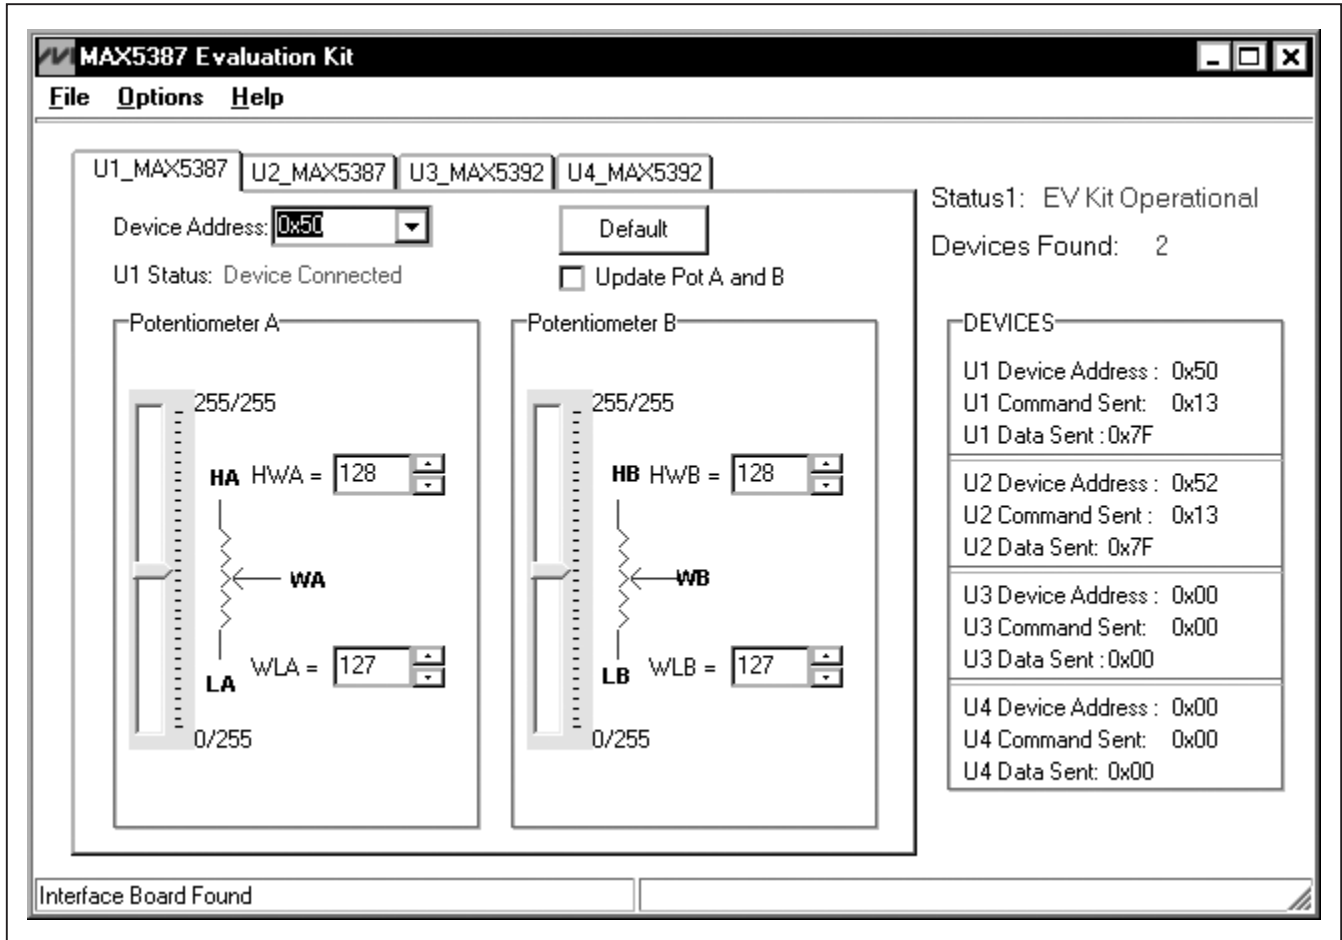
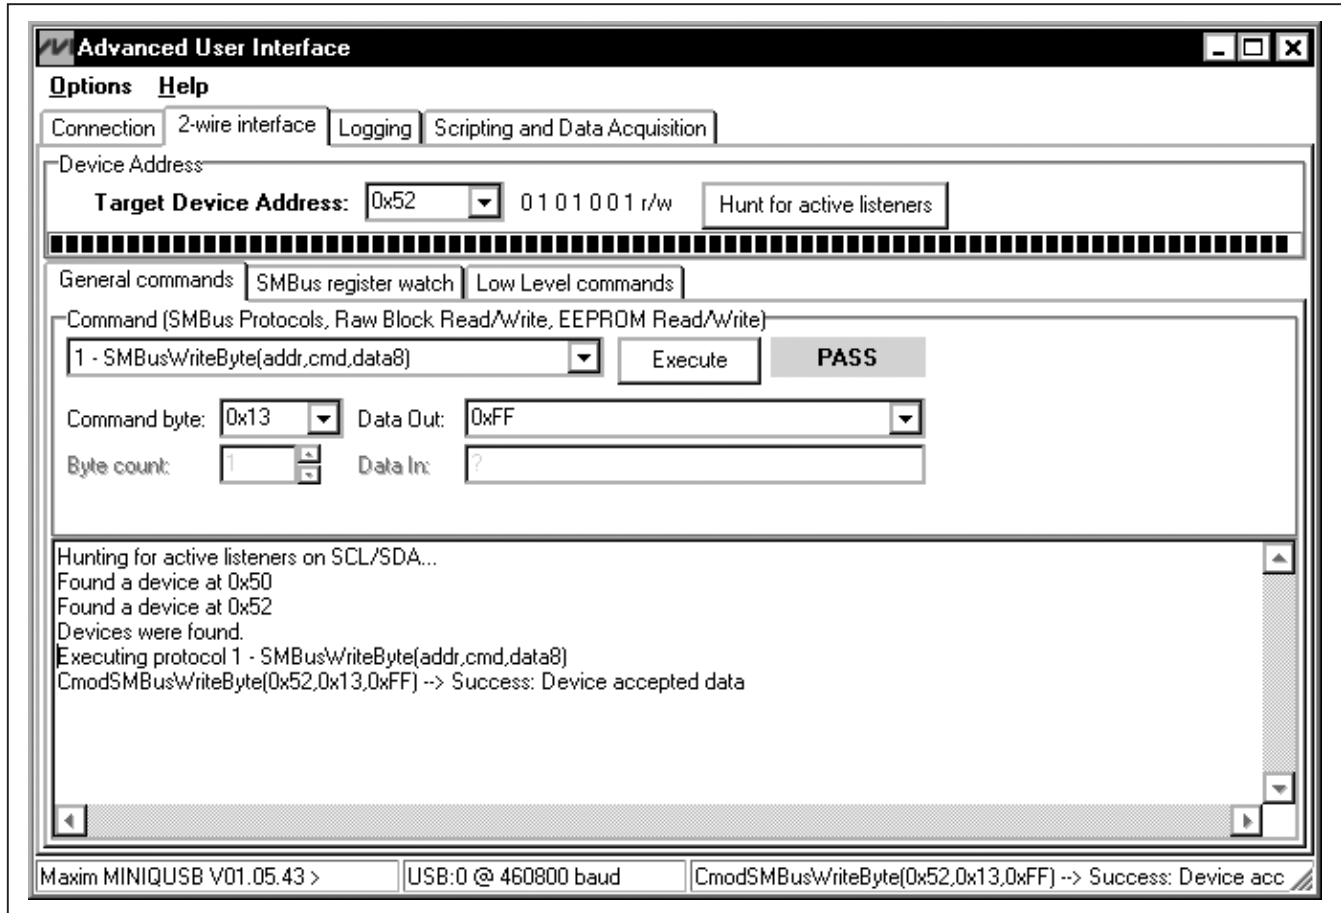

Figure 1. MAX5387 Evaluation Kit Software Main Window
Figure 4. Simple Low-Level 2-Wire Interface
- 14) The EV kit software main window appears, as shown in Figure 1.
The MAX5387 EV kit software GUI shown in Figure 1 is a Windows program that provides a convenient means to control two MAX5387 dual potentiometers. Use the mouse or press the Tab key to navigate through the GUI controls. The correct SMBus™/I²C write operations are generated to update the MAX5387 internal memory registers when any of these controls are executed.
There are two methods for communicating with the MAX5387 EV kit, through the normal user-interface panel (Figure 1) or through the I²C commands available by using low-level SMBus commands, or by selecting the **2-Wire Interface** (Figure 4) utility from the **Options | Advanced User Interface** menu bar. A window is displayed that allows I²C operations, such as **SMBusReadByte** and **SMBusWriteByte**. Do not use the **SMBusReadByte** operation because the MAX5387 does not send data to the master.
must be prefixed by \$ or 0x. Binary numbers must be exactly eight binary digits. See Figure 4 for an example of this tool. In this example, the software is writing data 0xFF to the register address 0x13 to the device with the device address 0x52. The data sequence sets the MAX5387 (U2) wiper positions WA and WB to 255.